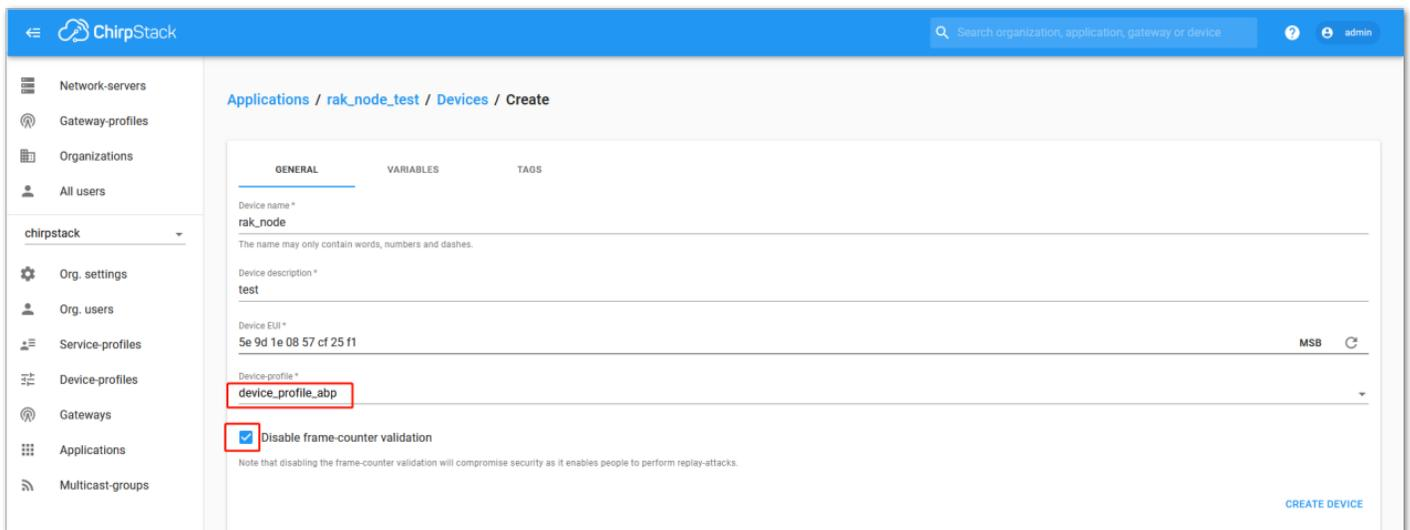

Figure 88: ChirpStack console, configuring a device
1. During the registration of a new device, if you select “**DeviceProfile_ABP**”, as shown in Figure 88, then the ChirpStack platform will assume that this device will join the LoRaWAN network using the ABP mode.